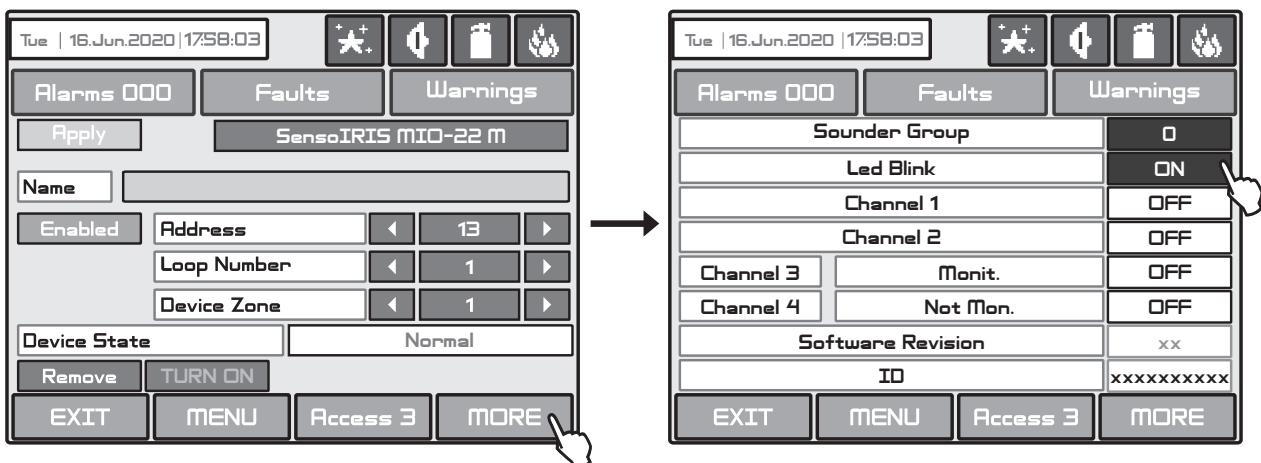

Fig. Screen 10(n) - SensoIRIS MIO-22M module.
On Fig. Screen 10(n) is shown the SensoIRIS MIO-22M (module with 2 inputs and 2 monitored outputs) settings screen. The panel recognizes the Input 1 as Channel 1, Input 2 as Channel 2, Output 1 as Channel 3 and Output 2 as Channel 4. Every of the outputs can be set to operate as monitored or non-monitored type, as the setting is via jumpers on the module's PCB. The active state of the monitored outputs can be programmed for operation in Normal or Inverted mode with configuration in menu OUTPUTS (SYSTEM - PROGRAMMING - OUTPUTS) - see the description of the menu in item 3.6. When an output is set to operate as Monitored, it must be powered on from an external power supply unit (18-30VDC).